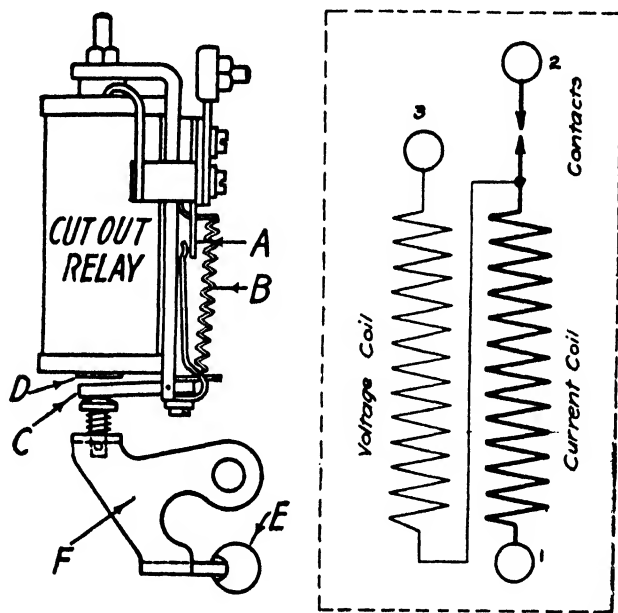

Fig. 242. Sketch and Diagram for Delco Cut-Out Relay
**Protective Devices. Battery Cut-Out.** In connection with Delco systems using the voltage regulator of the mercury type already described, a battery cut-out or a *cut-out relay*, as it is sometimes termed, is employed. Fig. 242 shows this cut-out together with a diagram of its windings. It consists essentially of a compound-wound electromagnet and a set of contacts designed to be closed by the movement of the pivoted armature of the magnet, and to be opened by a spring when the magnet is not excited. The compound winding consists of a voltage coil of a great many turns